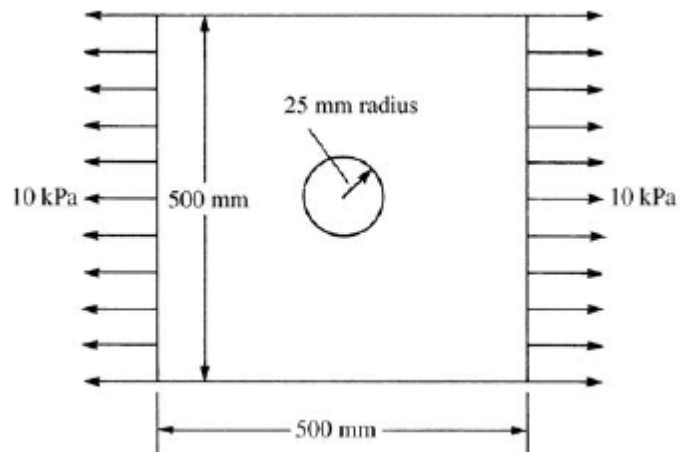

Figure P8.17
17. Determine the stresses in the plate with the hole subjected to the tensile stress shown in **Figure P8.17**. Graph the stress variation σ_x versus the distance y from the hole. Let $E = 200$ GPa, $\nu = 0.25$, and $t = 25$ mm. Use symmetry as appropriate.